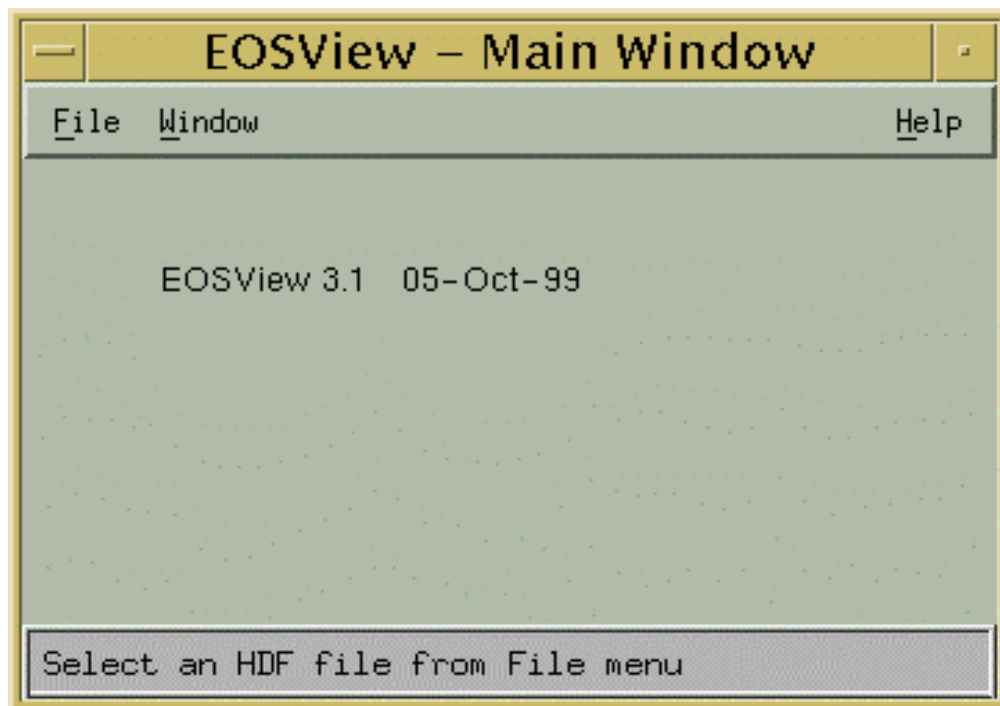

Figure 4.12.5-1. EOSView Main Screen
The EOSView Main Window shown in Figure 4.12.5-1 displays the current version of EOSView and date.
- **Open** -- This will cause a file selection dialog to appear (shown in Figure 4.12.5-2)